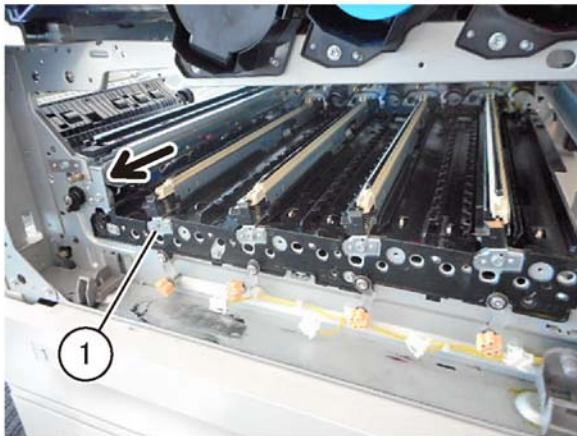

Figure 3 Move the LPH
10. Move the LPH (K) to the front until it stops, Figure 3